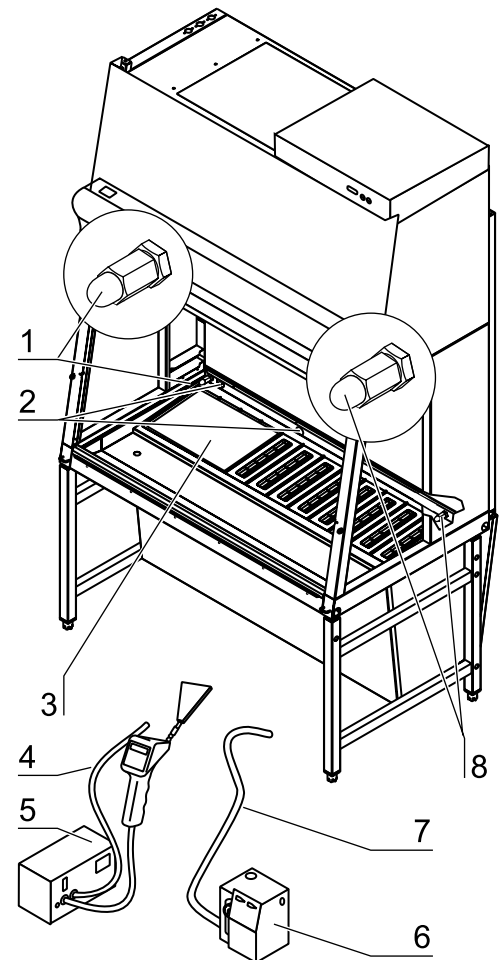

Fig. A1,
1. **Fig. A1:** Route the hose [5] of the aerosol generator [6] so that the aerosols are supplied to the downflow upward air-flow.